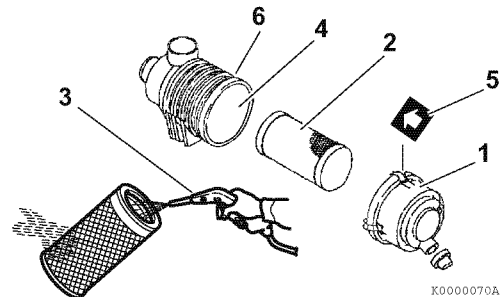
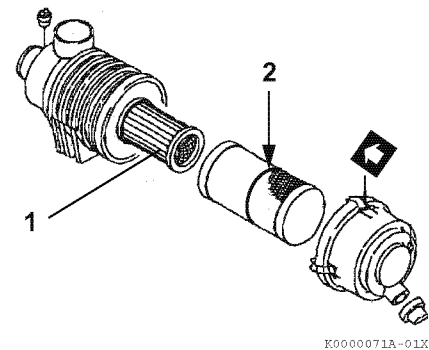

Figure 5-11
Figure 5-12
Note that a typical air cleaner is shown in **Figure 5-11** and **Figure 5-12** for illustrative purposes only.
1. Unlatch and remove the air cleaner cover (1, **Figure 5-11**).
2. Remove the element (2, **Figure 5-11**) (outer element if equipped with two elements).
3. Blow air (3, **Figure 5-11**) through the element from the inside out using 42 - 71 psi (0.29 - 0.49 MPa; 3.0 - 5.0 kgf/cm²) compressed air to remove the particulates. Use the lowest possible air pressure to remove the dust without damaging the element.
If the air cleaner is equipped with a double element, only remove and replace the inner element (1, **Figure 5-12**) if the engine lacks power or the dust indicator actuates (if equipped).
6. Install the element into the air cleaner case (4, **Figure 5-11**).
7. Install the air cleaner cover making sure you match the arrow (5, **Figure 5-11**) on the cover with the arrow on the case (6, **Figure 5-11**).
Replace the air cleaner element (2, **Figure 5-11**) every 500 hours even if it is not damaged or dirty.
When replacing the element, clean the inside of the air cleaner case (4, **Figure 5-11**).
If the air cleaner is equipped with a double element, only remove and replace the inner element (1, **Figure 5-12**) if the engine lacks power or the dust indicator actuates (if equipped). This is in addition to replacing the outer element.